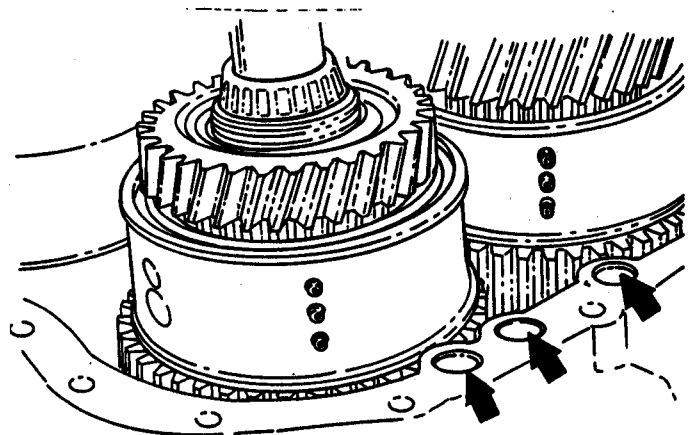

Figure 23.
16. Install three new o-rings (Figure 23) in the front case. Smear the o-rings with grease to hold in position.